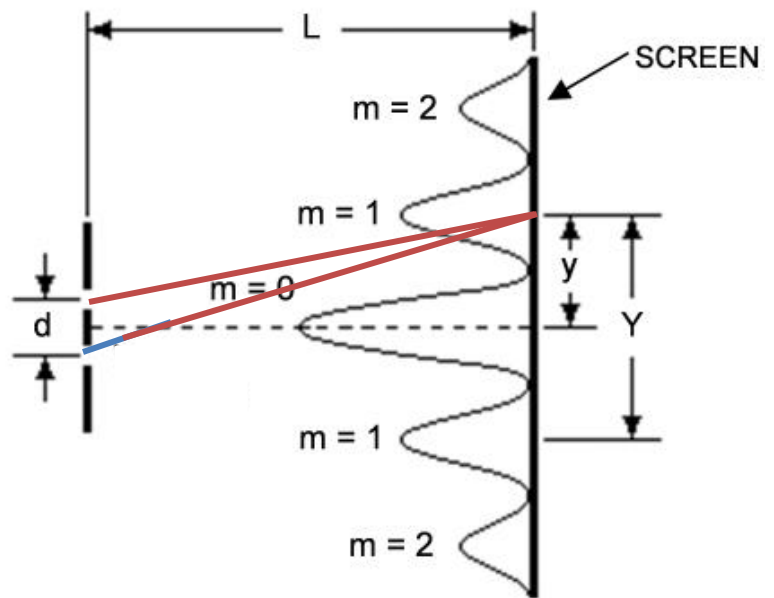

FIGURE 2 - Double slit interference
Let's say that we have a situation in which laser light is incident on two very small slits. The slits are a distance, **d**, apart and a screen is placed a distance, **L**, from the slits. See **Figure 2**.
If the two beams of light are *out of phase* when they meet then you will see a dark spot (*destructive interference*). As a result, you should see on the screen a pattern of bright and dark spots (or fringes). This pattern is shown as peaks of brightness and valleys of darkness in Figure 2.
In the lab you will be measuring the distance, **Y**, from one bright fringe to its counterpart fringe on the other side of the central axis. See **Figure 2**. You will then divide this distance by two, **y = Y/2**, and use this value in the above equation. This process will give you more accurate data.
- a. Measure the distance, **Y**, from one bright fringe to the other for the **same order number**. See **Figure 2, you're measuring from m=1 to m=1, m=2 to m=2 and so on**. Place these values in the table.